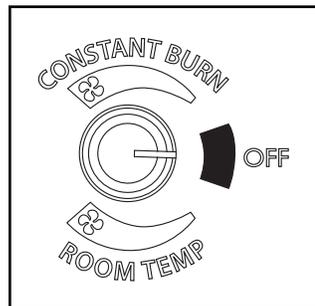

Figure 4.2
1. A room sensor is required for proper operation of this appliance in “Room Temp” mode. At this time, fill the hopper with pellets, insure the control is set to “OFF”. Figure 4.2. Plug the power cord into a properly grounded, nearby outlet.